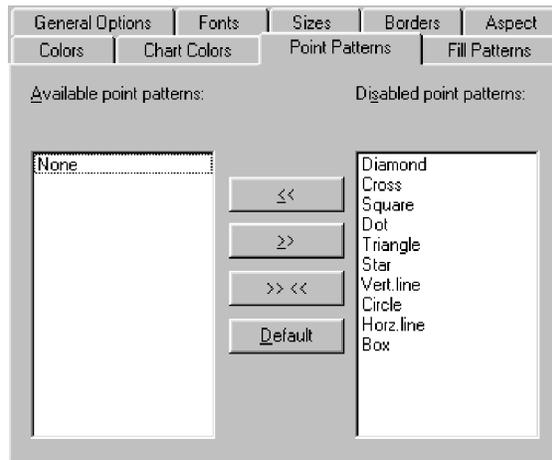

Figure 8.20 *Graph Options dialog box: Point Patterns tab*
- 2 In the **Graph Options** dialog box, click the **Point Patterns** tab (Figure 8.20).